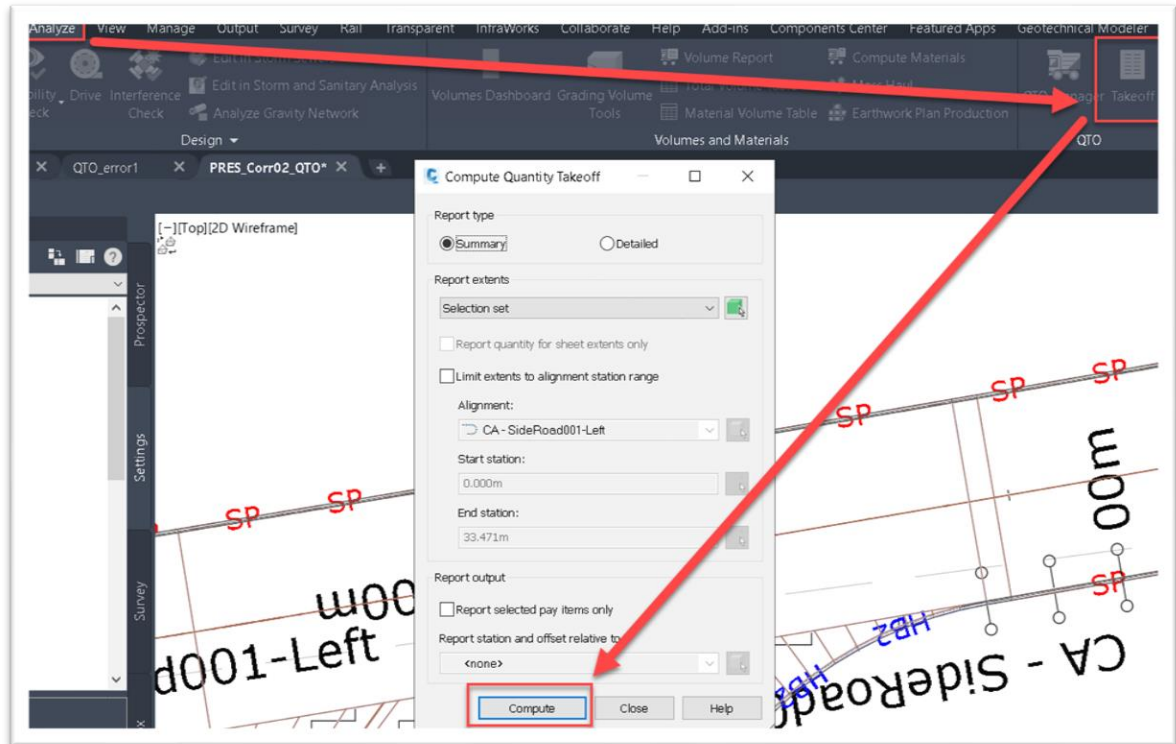

Figure 46 - Running the takeoff
- Follow the steps shown in Figure 46.